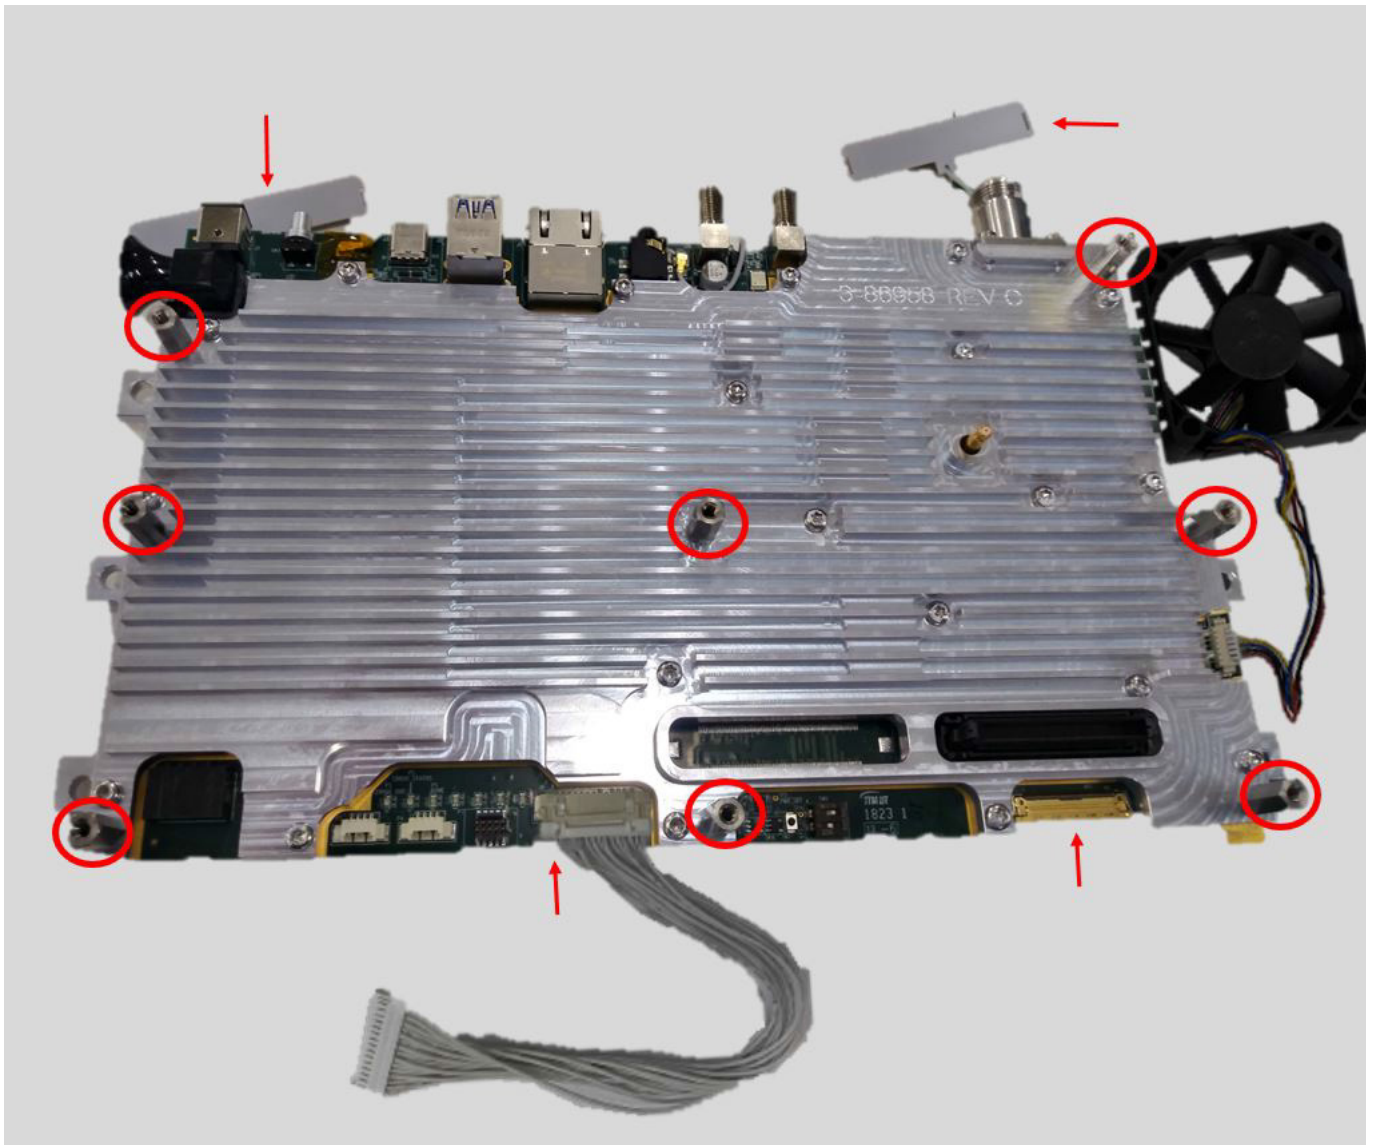

Figure 5-17. Main PCB Removal
2. Remove the eight stand-offs using 6 mm hex socket driver to remove the Main PCB. See Figure 5-17.